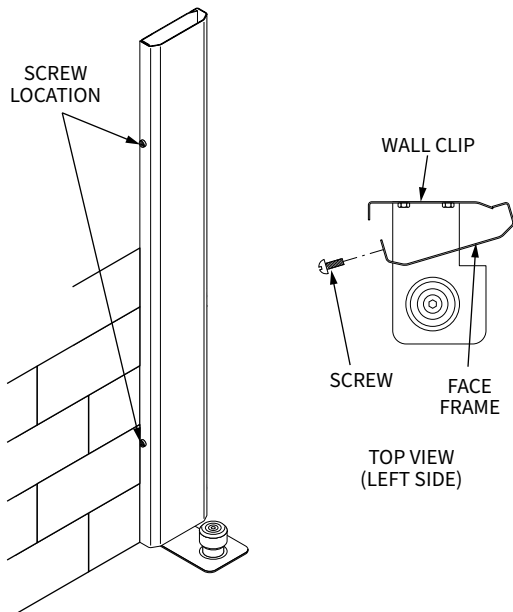

Figure 7: Fastening Face Frame Covers to Wall Clips
3. Attach the face frames with 2 screws per frame (Figure 7).